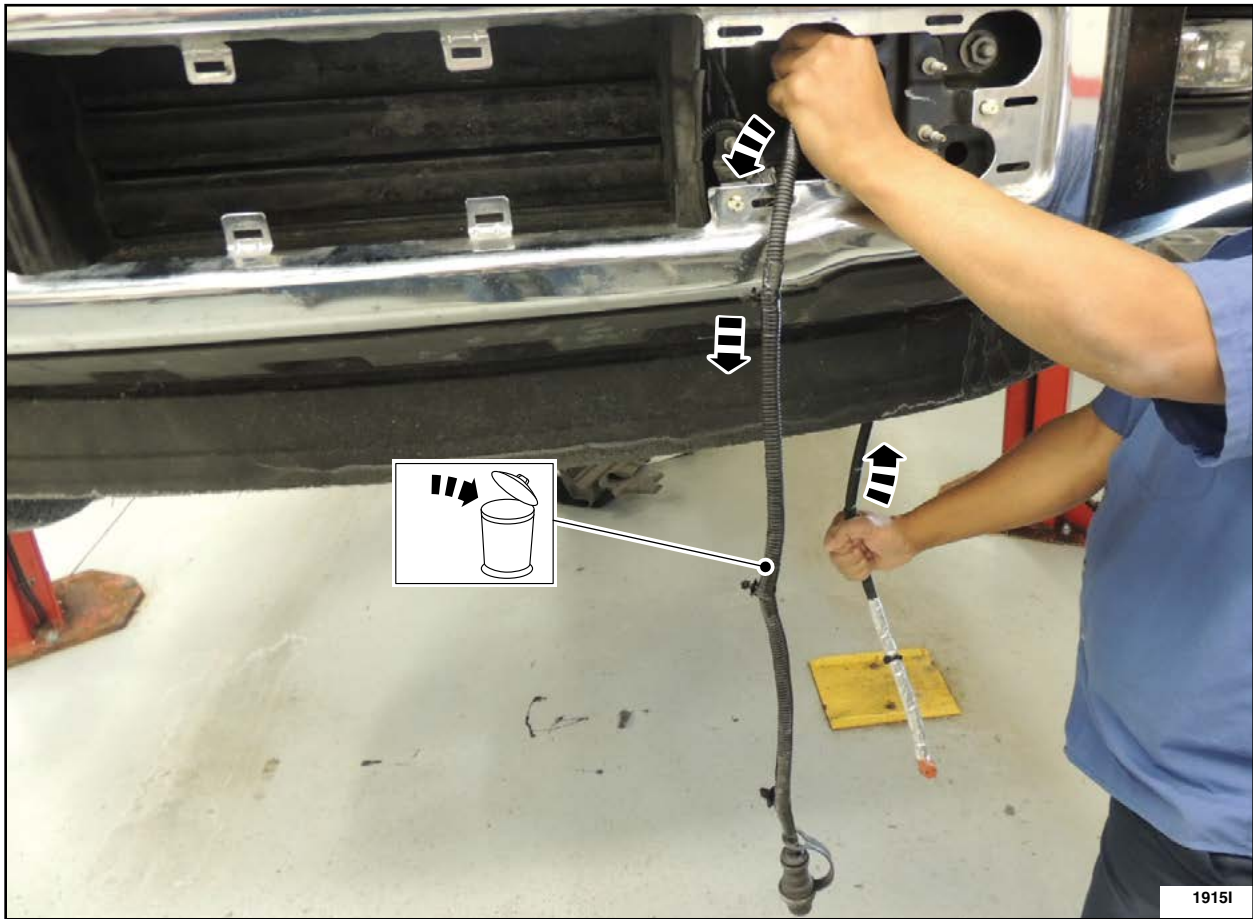

FIGURE 13
14. From the front of the vehicle, guide the block heater cable out through the front of the bumper. Remove and discard the original block heater cable. See Figure 13.
19. Continue to route the block heater cable until at least half of the cable is routed through the front bumper. See Figure 13.